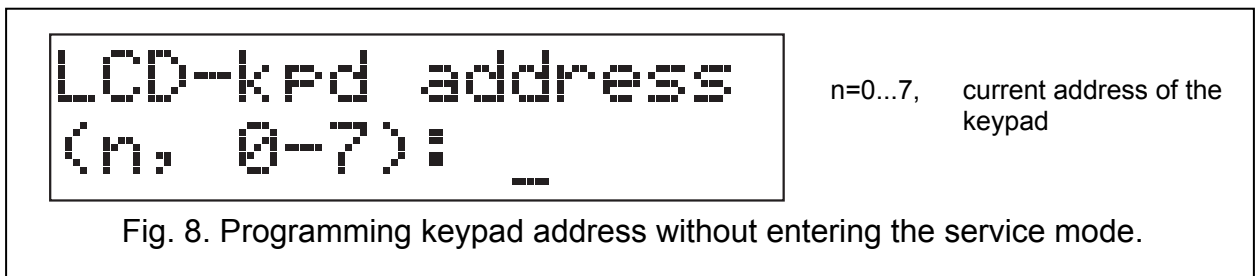

Fig. 8. Programming keypad address without entering the service mode.
4. The text shown in Fig. 8 will appear on the display.
5. Enter a new address from the 0–7 range. The keypad will confirm execution of the function by four short and one long beeps. If it is necessary to change the entered address, press the [\*] key (keypad restart will follow and the text shown in Fig. 8 will again be displayed).